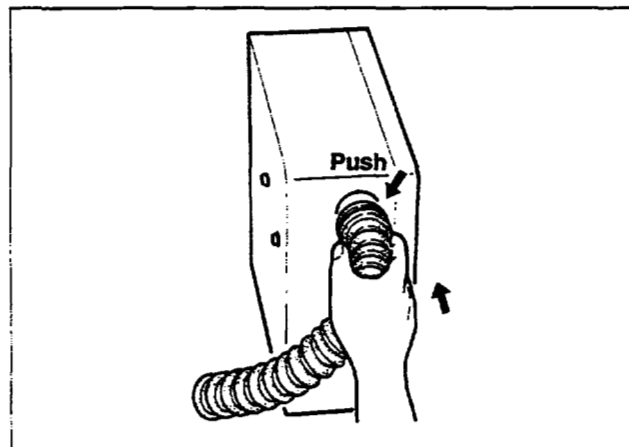

Fig. 10-43
- (3) Press the upper end of the bushing into the bottom window of the control box. (See Fig. 10-43.)